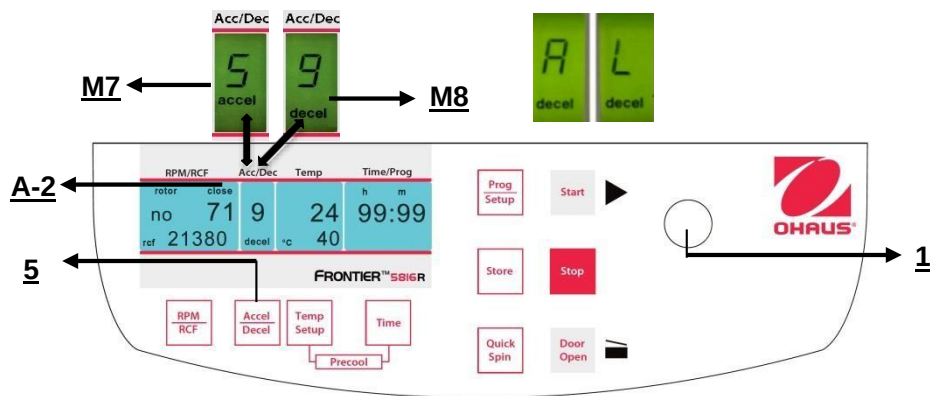

Figure. 21
This function is activated through the key **"Accel/Decel"** (5) (refer to figure 21).
Close the lid, then press the key **"Time"** (6) (refer to figure 21) and the key **"Prog/Setup"** (11) at the same time and hold them.